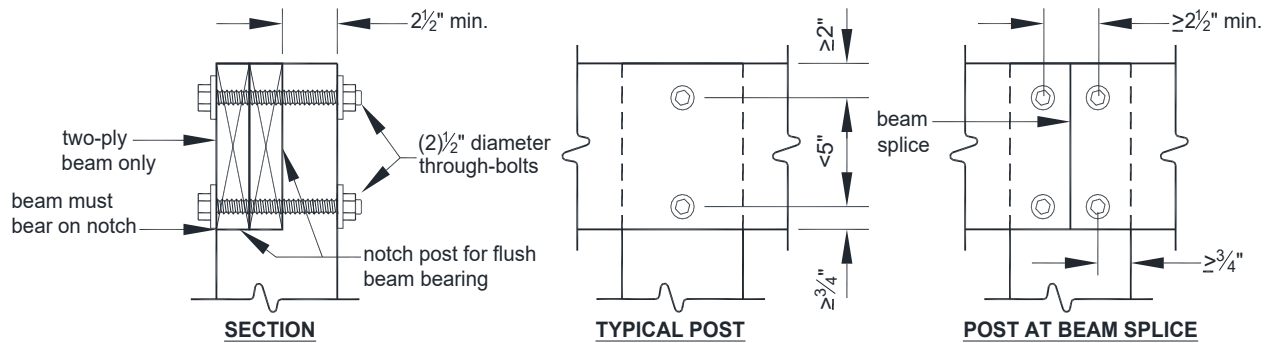
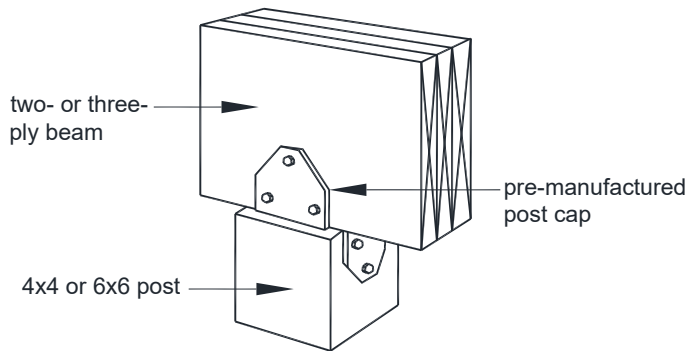

FIGURE 16: NOTCHED 6x6 POST-TO-BEAM CONNECTION
FIGURE 17: POST CAP CONNECTION
- Beams shall be attached to 6x6 posts using one of the methods shown in FIGURES 16 or 17. Beams shall be attached to 4x4 posts using the method shown in FIGURE 17.